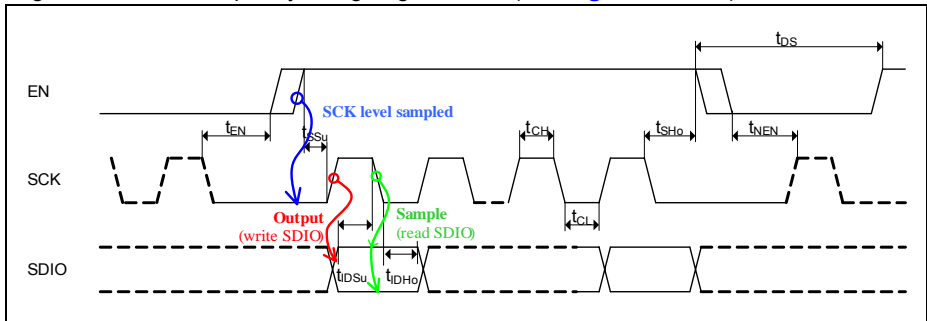
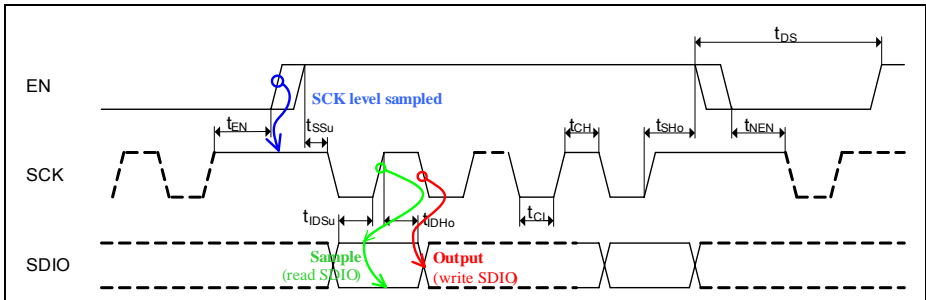

Figure 6 SPI Timing — SCK low at rising edge of EN
Figure 7 SPI Timing — SCK high at rising edge of EN
- **EN** - **enable input** with embedded pull-down resistor. High level on EN input enables the SPI transmission. The rising edge of the EN signal triggers the selection of the active SCK edge (for the consequent data transfer, until the EN line goes again in low state) and transmission/ sampling of data between the device and the microcontroller can start. For details refer to Figure 6 and Figure 7.
- **SCK** - **clock input** pin with embedded pull-down resistor. If SCK is at low level while EN goes high, the incoming SDIO data is sampled by falling edge of the SCK and the output SDIO data is set by the rising edge of SCK. Contrariwise, If SCK is at high level when EN goes high, the SDIO data is sampled with the rising edge of the SCK clock and output on SDIO by falling edge of the SCK clock. For details refer to Figure 6 and Figure 7.
If SCK is low at that moment, the incoming SDIO data will be sampled with the falling edge of SCK, and output by rising edge of SCK (see Figure 6 below)..
If SCK is high during occurrence of rising edge on EN, incoming SDIO data is sampled with the rising edge on SCK, and output by falling edge of SCK, as illustrated in Figure 7.